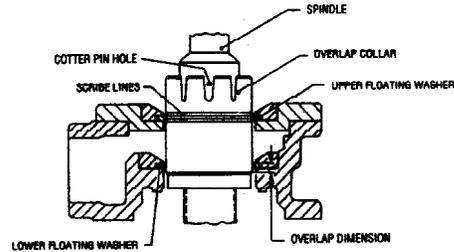

FIGURE 32
23. If the overlap collar has been removed from the spindle, lubricate the collar threads and place over the spindle with the notches in the collar up (i.e., away from the cover plate). Note that the overlap collar has four circumferential scribe lines. The lower scribe line is the one farthest away from the notches. (See Figure 32, below.)